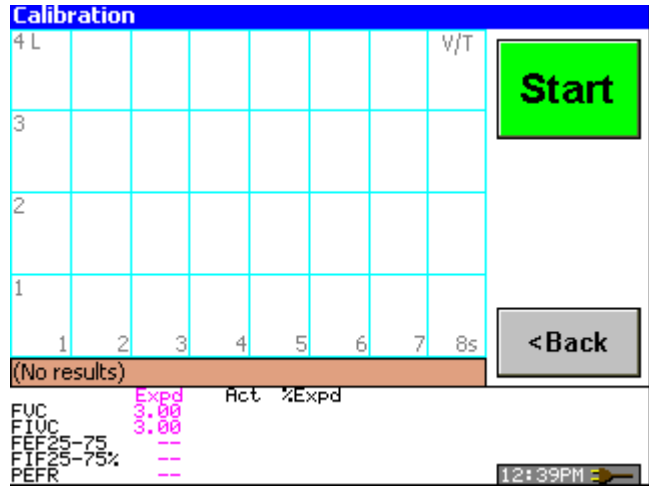

Figure 31 – Start Calibration Screen
2. Review the displayed temperature, barometric pressure, and relative humidity; modify if needed. Select the **[OK]** button. The start calibration screen is displayed (see Figure 31).